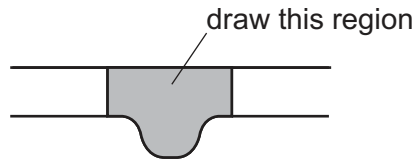

Fig. 2.1
- (a) (i) Draw a large plan diagram of the region of the leaf on **M1** indicated by the shaded area in Fig. 2.1.